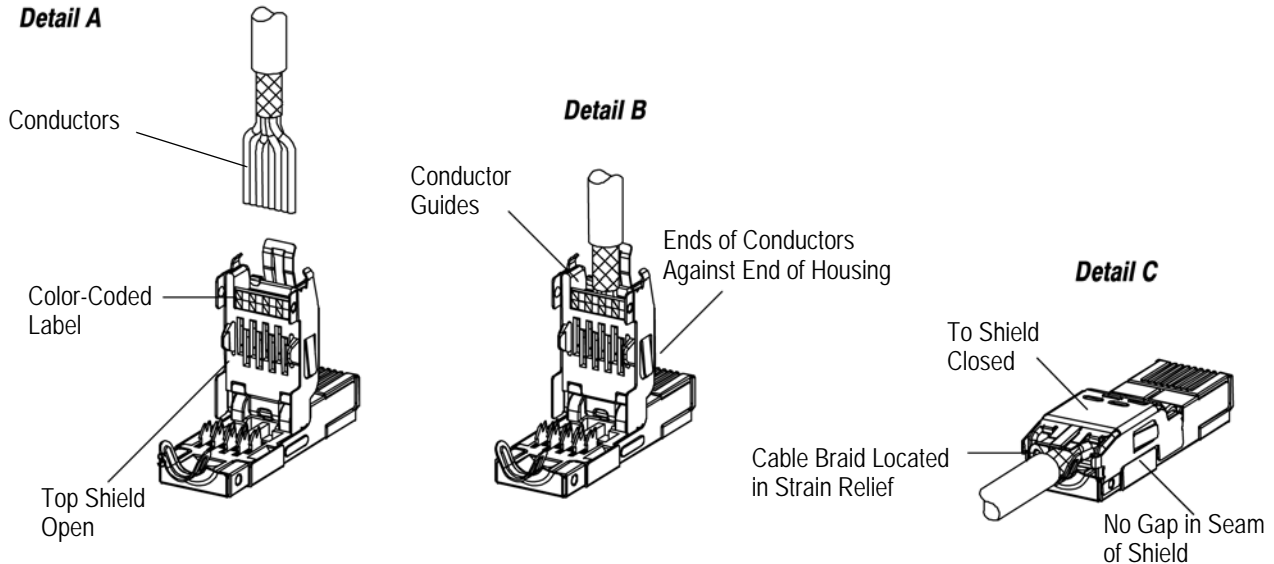

Figure 5
- 1) The top shield of the common core assembly must be opened. The colors of the cable conductors must match the colors on the color-coded label of the common core assembly. Figure 5, Detail A.
- 2) The conductors (maintaining arrangement) must be inserted into the conductor guides until the ends of the conductors butt against the end of the housing. The conductors must not be twisted in the conductor guides. See Figure 5, Detail B.
3) The top shield must be closed (there must be an audible "click"). The cable braid must be located in the strain relief. There must be no gap in the seam between the top shield and bottom shield. See Figure 5, Detail C.